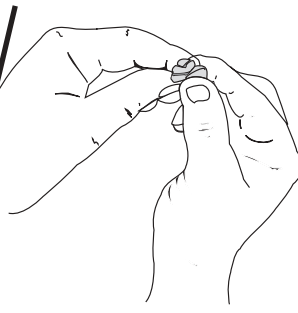

Figure 25
5. Squeeze the filter to spread and remove excess oil. See Figure 25.